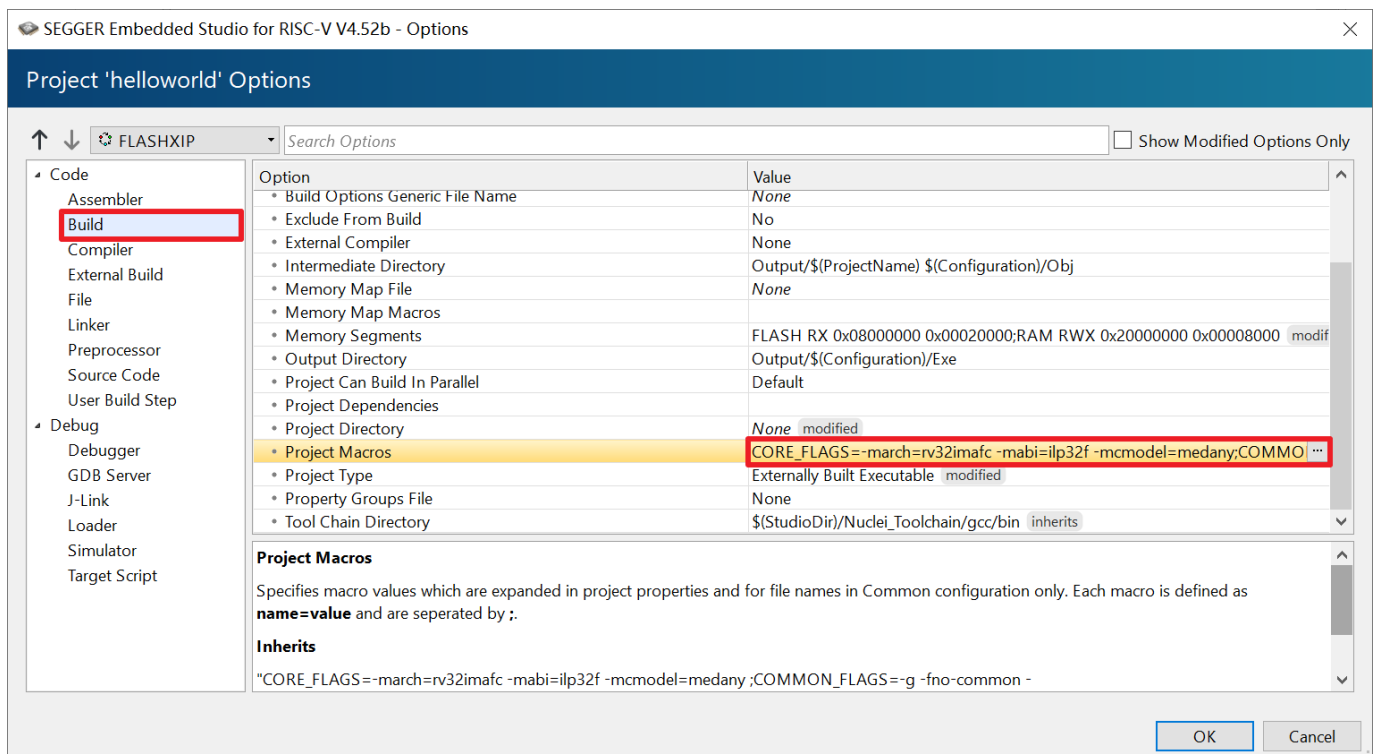

Figure 2-17 Change Project Macros
- Modify the Project Macros. As shown in Figure 2-17 , Open Build options and modify the Project Macros option to the following. Note that each Macro should be separated by a new line.